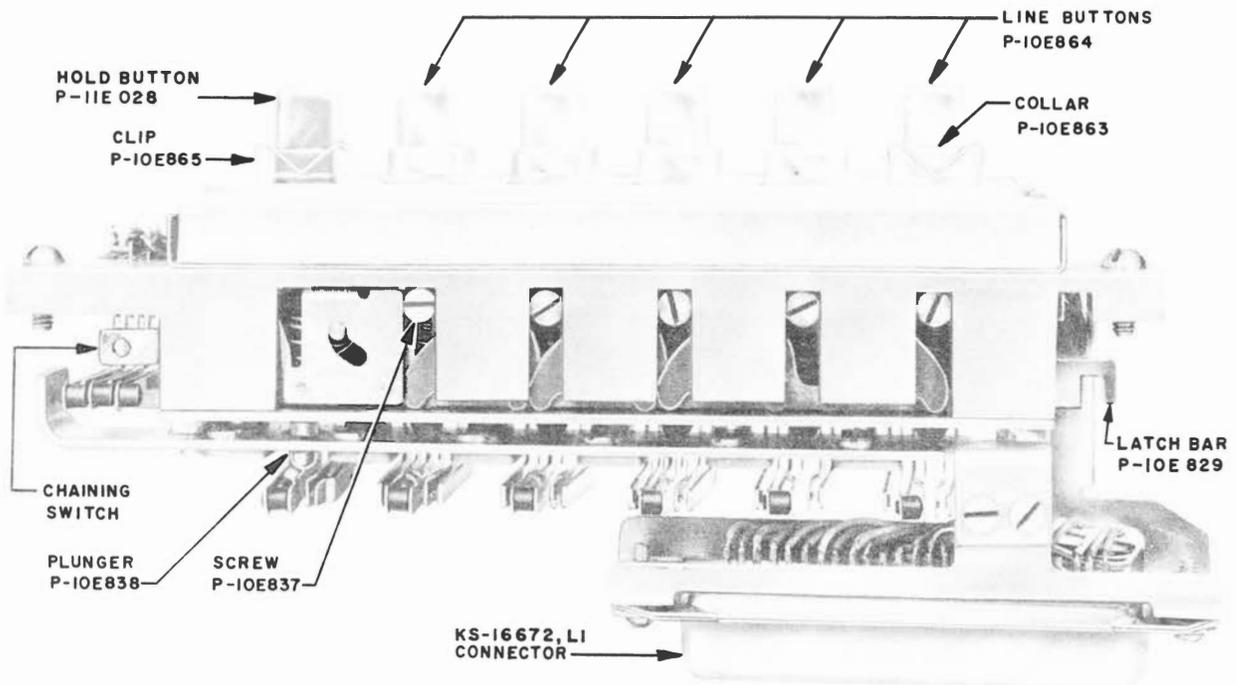

Fig. 4 – 599A Key
3.05 The 599A key module (see Fig. 4) is the same design as the 598A with the following exceptions: